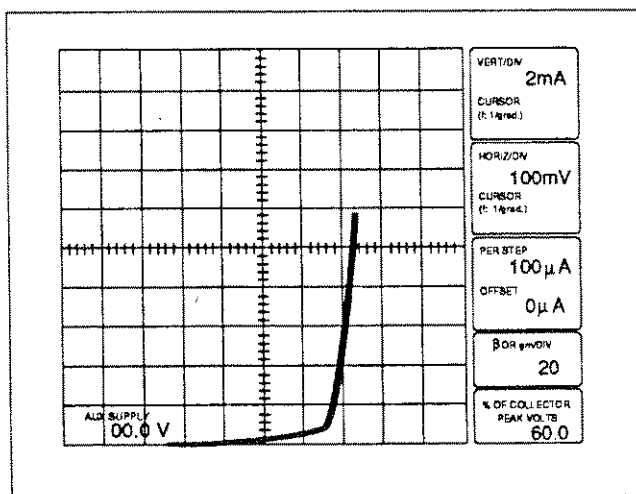

Figure 3-16. Averaging display.
5. Set the ACQ MODE to AVG. The averaging count (1 through 16) is displayed at the upper right corner of the CRT (see Figure 3-16), and the acquired curves are averaged.